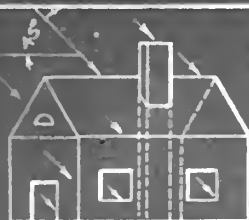

Fig 1
2. The light is assumed to come in the direction of arrows - Fig 1.